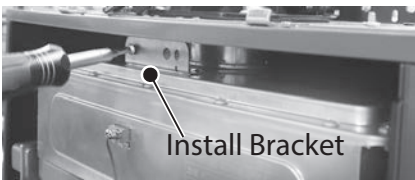

Figure 155 - HEX install bracket and screws
- 47** Locate the heat exchanger install bracket and two screws at the top of the water heater cabinet as shown in Figure 155.